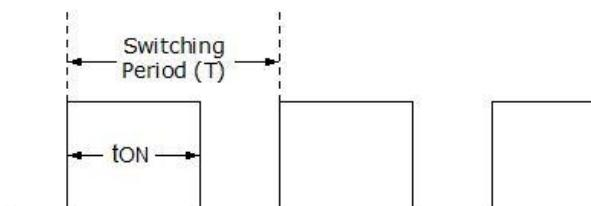

Figure 4. Pulse width modulated (PWM) Signal
Output voltage of a boost converter is controlled by a pulse width modulated (PWM) signal shown in figure 4. The duty cycle is the ratio between the on time and the switching period shown in (2). By adjusting the duty cycle, we can obtain desired output voltage, which is shown in (1). When D increases, the output voltage increases. When D decreases, the output voltage decreases.